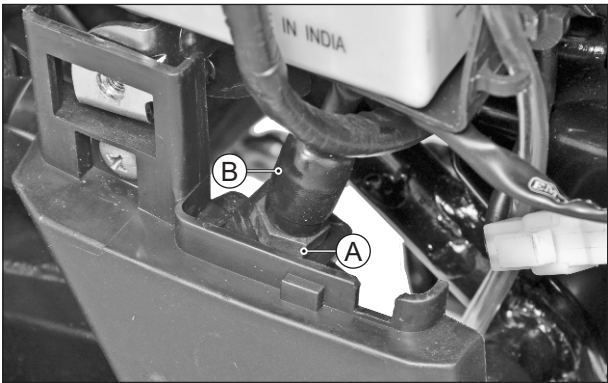

Fig. 5.62
- The switch assembly stop lamp rear can be adjusted by turning the adjuster nut (A) in or out, so that the brake lamp glows when the rear brake is applied. (Fig. 5.62)